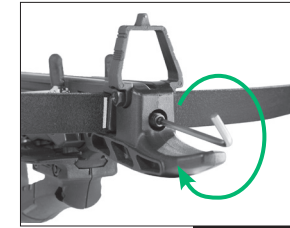

FIGURE 3
6. Insert and tighten the limb screw using the LARGE hex, realigning the lines as needed. **DO NOT OVERTIGHTEN** (Fig. 3).